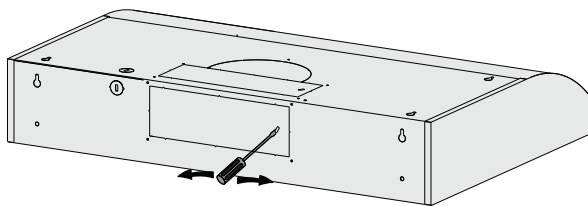

Figure 11
- If you require 10 inch rectangular rear (horizontal) venting, simply install the rectangular damper provided. See Figure 11, 12 and 13 to remove plate, use four screws (ST4 × 8 mm) for 10 inch duct to connect damper.